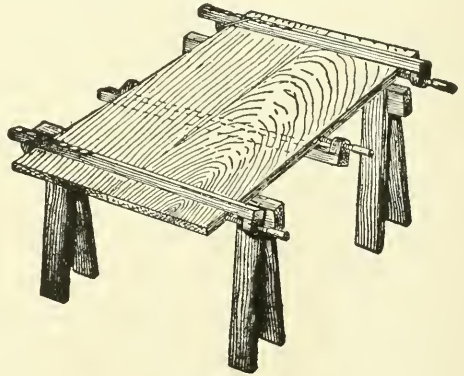
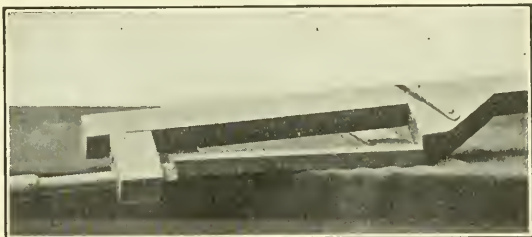

Fig. 191
Fig. 192
72. Clamps.—Cabinet-clamps, shown in Figs. 192 and 193, are useful in making glue-joints and in other operations. To clamp two or more flat pieces together, as in making a glue-joint, or a door-frame, lay the work on the horses, and apply the clamps as in Fig. 191. Put pieces of waste wood between the work and the clamps. Place the clamps so
As the clamps are tightened sight across the surface of the work. It will often be winding. (See page 18.) When this happens, move one or more corners of the work up or down, as may be required, in the clamps (Fig. 192), until the surface is true. A little experimenting will show how to do this. In the case of
In such cases as that shown in Fig. 191, if hot glue is used, waste no time in trying to get the surfaces *exactly* flush with each other at the joint before partially tightening the clamps, lest the glue become set. Then any slight alteration can be made by tapping with the hammer near the joint. Use a waste block to strike against unless the dent from the blow will be removed afterwards by planing. The clamps can then be screwed tighter. See *Glue*, page 182. Where the pieces to be glued could be bent by the pressure of the clamps, put
81. Horses or Trestles are to lay stock on for marking or sawing, to put large work together on, and for similar uses (Fig. 191). Keep the tops smooth and clean, for hardened glue or varnish will deface nice work. See also page 242.